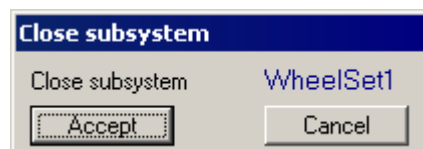

Figure 2.9. Changes confirmation
5. Close the object **WheelSet1** by the **Accept** button, see Fig. 2.9.